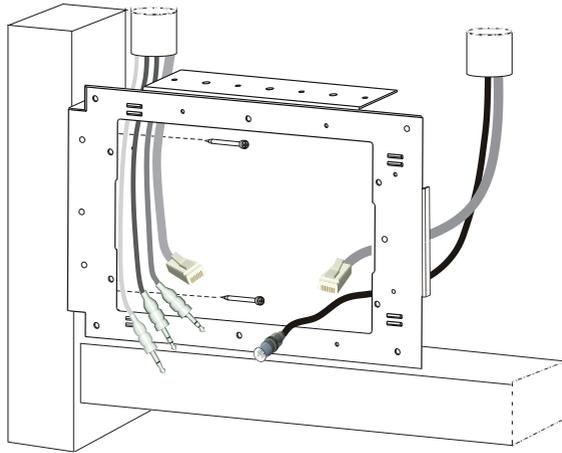

Figure 8. Nail bracket installation detail
2. Feed the cables through the nail bracket. Refer to Figure 8. The use of conduit is recommended. The positioning of cables will vary depending on the installation.